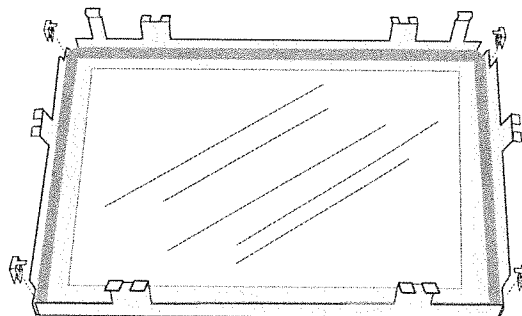

Figure 8.2
6. Lay the glass panel within the glass frame and press the tabs back down or press the clips in place as shown in fig. 8.2.